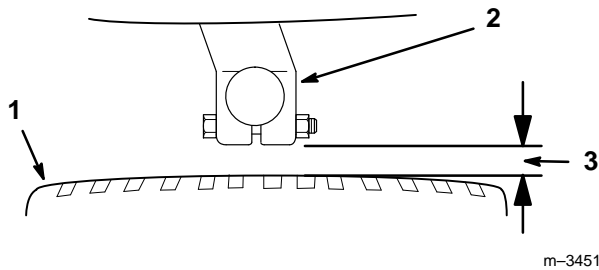

Figure 5
13. Look at the end of the steering arm and the inside edge of the tire. The end of the steering arm and the inside edge of the tire must be parallel (Fig. 5). Adjust the steering arm if required.